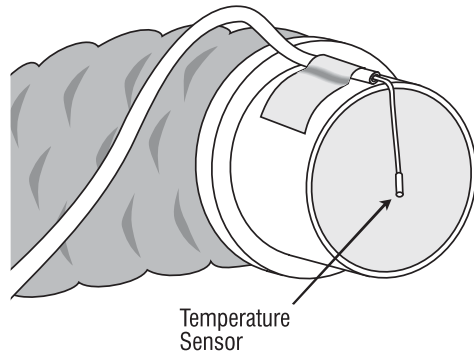

Figure 6A - Hose detail, showing sensor location
5. Locate the air temperature sensor at the center of the end of the hose (fig. 6A). Secure the sensor with adhesive tape. **Verify that the sensor is located at the center of the hose.**
23. Locate the air temperature sensor at the center of the end of the hose (fig. 6A, p. 10). Secure the sensor with adhesive tape. **Verify that the sensor is located at the center of the hose.**